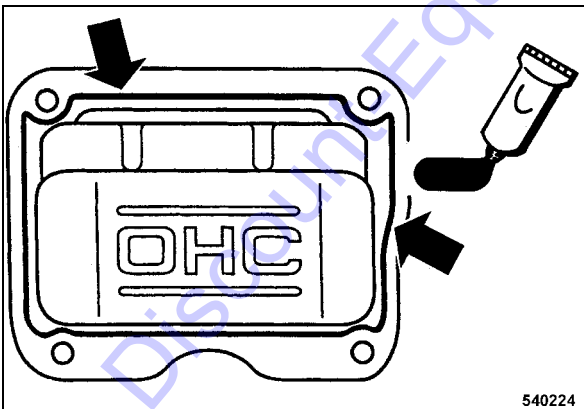

Fig. 47
1.5 to 2 mm to the inside of the cylinder head cover (Fig. 47).